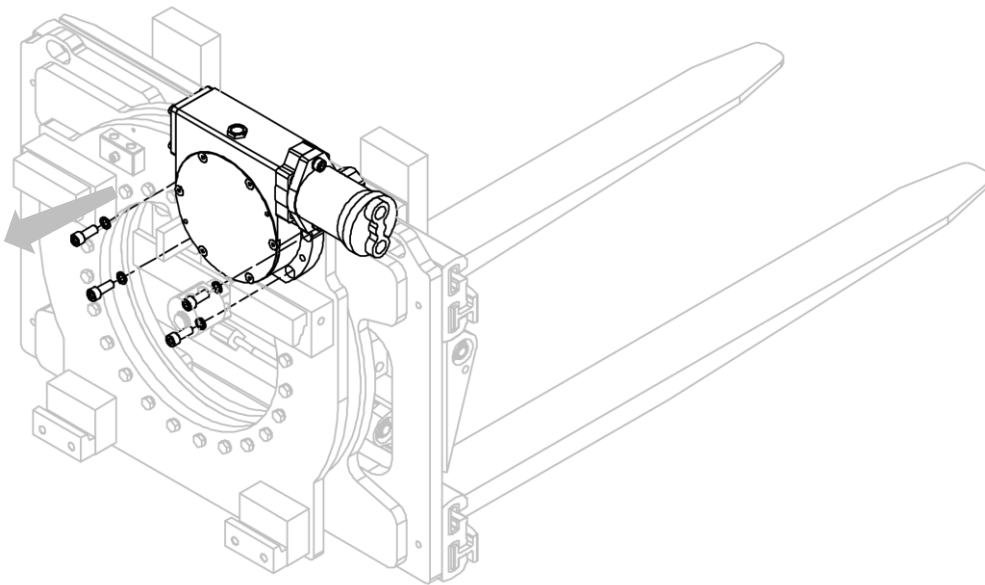

Figure 36
3. Remove the gearbox-motor pair from the equipment assembly, after removing the corresponding bolts (see *Figure 36*).